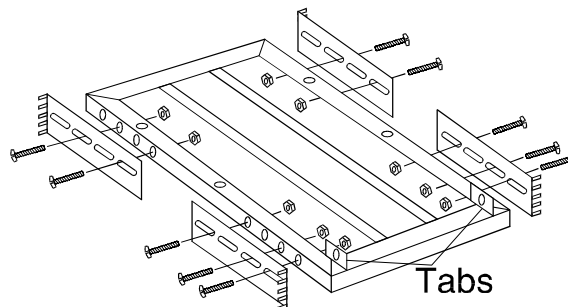

Figure 11
- b. Next, look at Figure 11 below. As shown in the drawing, use the longer bolts (item # 9) and the nuts (item # 13) to attach the brackets to the frame. Use three bolts for each bracket at the front of the frame and two bolts for each bracket at the back of the frame. (The front is the end with the metal tabs shown in Figure 11.) Leave the bolts finger-tight for now.